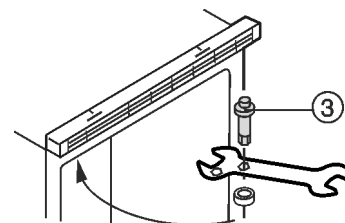

Fig. 3
- ▶ Unscrew the top hinge pin Fig. 3 (3) and firmly screw it in on the opposite side (with 4 Nm).
- Attach the door to the upper hinge pin Fig. 3 (3) and close it.